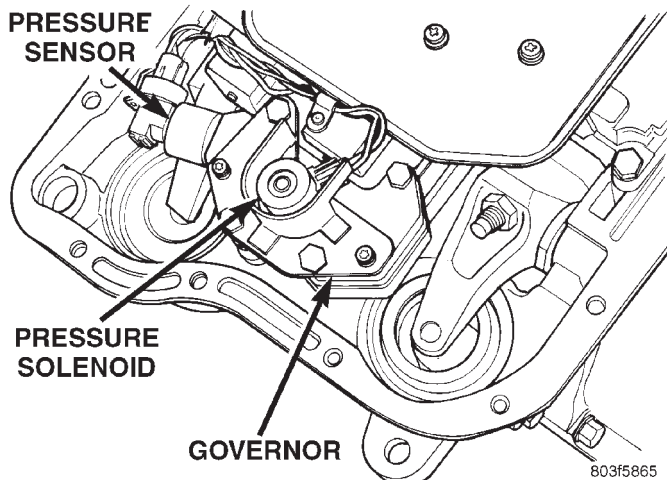
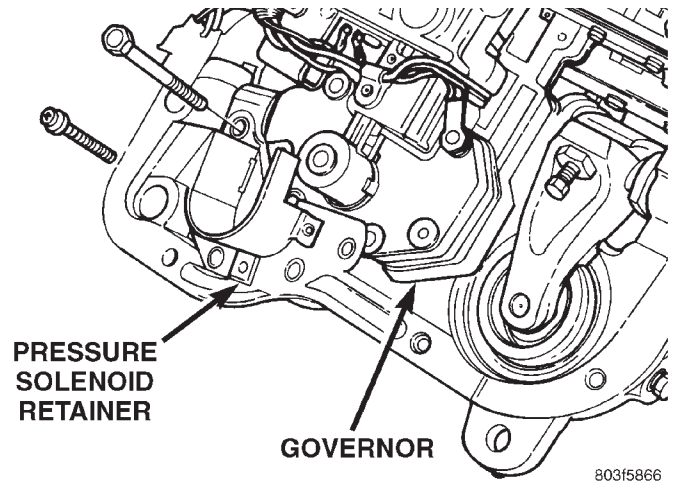
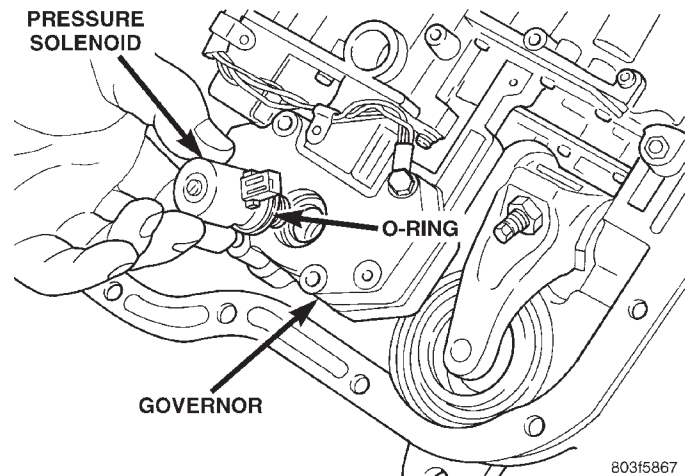

Fig. 39 Governor Solenoid And Pressure Sensor
Fig. 40 Pressure Solenoid Retainer
Fig. 41 Pressure Solenoid and O-ring
The governor is electronically controlled. It consists of a pressure sensor, a pressure solenoid, and the governor body (Fig. 39).
(1) Hoist and support vehicle on safety stands.
(2) Remove transmission fluid pan and filter.
(3) Disengage wire connectors from pressure sensor and solenoid (Fig. 39).
(4) Remove screws holding pressure solenoid retainer to governor body.
(5) Separate solenoid retainer from governor (Fig. 40).
(6) Pull solenoid from governor body (Fig. 41).
- (6) Place governor body in position on valve body.
- (7) Install bolts to hold governor body to valve body.
- (8) Lubricate O-ring, on pressure solenoid, with transmission fluid.
- (9) Align pressure solenoid to bore in governor body (Fig. 41).
- (10) Push solenoid into governor body.
- (11) Place solenoid retainer in position on governor (Fig. 40).
- (12) Install screws to hold pressure solenoid retainer to governor body.
- (13) Engage wire connectors into pressure sensor and solenoid (Fig. 39).
- (14) Install transmission fluid pan and (new) filter.
- (15) Lower vehicle and road test to verify repair.